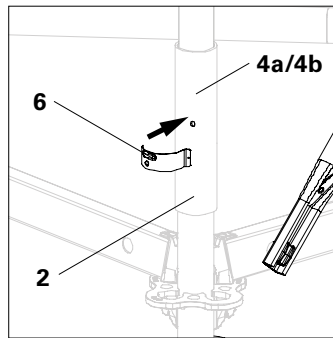

Fig. A2.07c
1. Tightly connect Standard and Base Standard UVB 24 (**2**) using Locking Pins \varnothing 48/57 (**6**). (Fig. A2.07c/A2.07d)